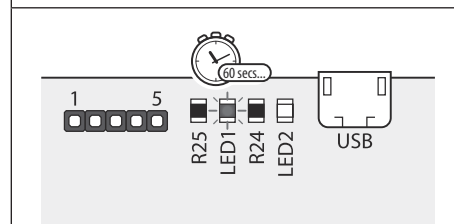

Fig. 37
4. The red LED (LED1) will then start to flash for approximately 60 seconds while it resets the master code back to **1111 (4x1)**, as shown in **Fig.37**.